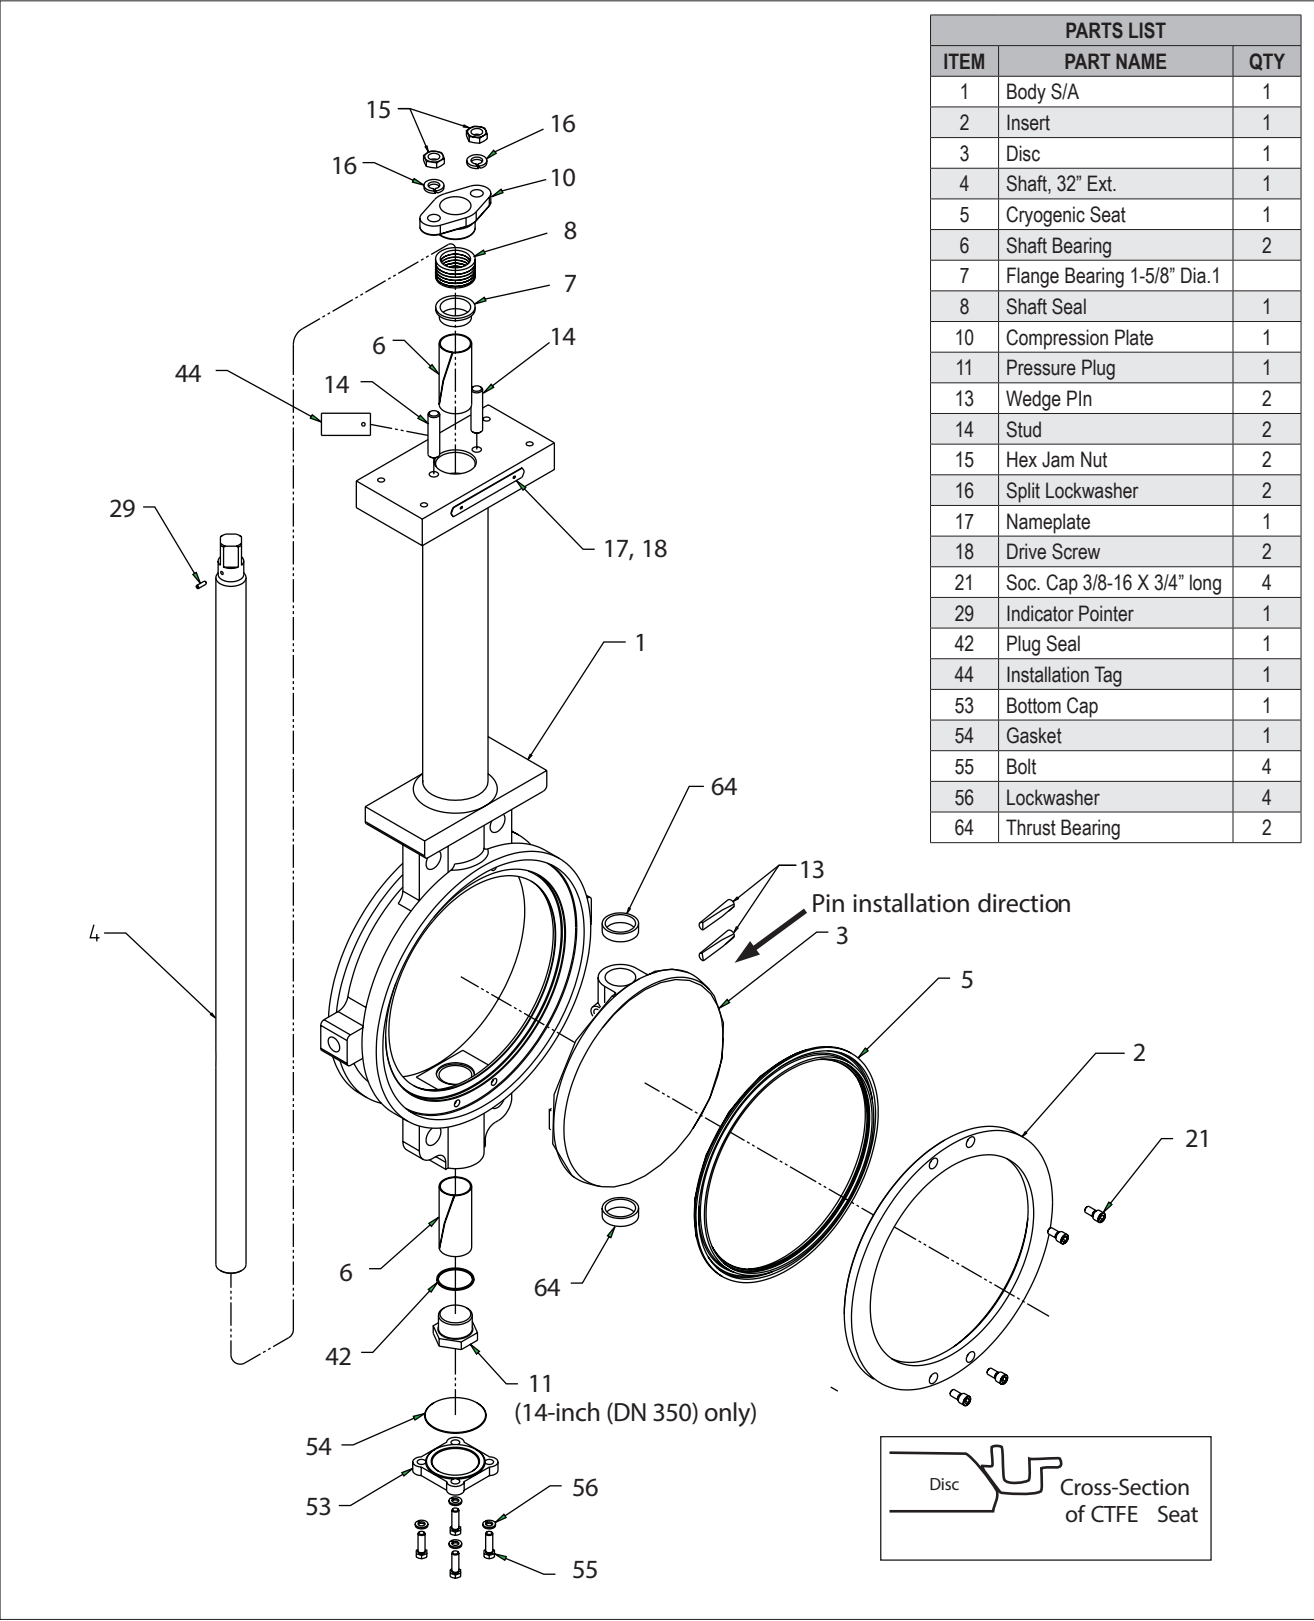

Figure 8.
5. Install the bearings (6) into the body bores.
7. Position the disc (3) in the body between the thrust bearings (64) and slide the shaft (4) through the body and disc. Use caution to prevent damage to the bearings. An arrow and the word "bonnet" on the disc indicates correct orientation.
8. Insert the wedge pins (13) and drive them into place. The pins must be driven so that all pins are the same depth within 1/16" (1.6mm). Be certain that the pins are installed from the direction shown in **Figure 8 or 9**. Weld both ends of the pins, small end first. After the disc cools, clean the welds with a wire brush. **CAUTION:** Use care to keep contamination out of the valve.
10. If the studs (14) have been removed from the valve, reinstall them in the holes shown in **Figure 8 or 9**.
11. Place the compression plate (10) over the shaft (4) and studs (14). Orient the plate so that the indicator pointer will be over the indicator plate. Install the lockwashers (16) and nuts (15), but do not tighten. Install the indicator pointer in the shaft.
12. On valves with cover plates, install bottom bearing spacer (43) in 14"– 16" (DN 350-400) 830W and 830L valves only. Assemble the cover plate (53) and gasket (54) to the cap screws (55) and lockwashers (56). Torque the cap screws per **Table 3**. Place the plug seal in the recess at the bottom of the valve and install the plug. Torque the plug until it is flush with the body. A small (1/16") tack weld on the corner of the plug is recommended. **CAUTION:** A larger tack weld is apt to have enough heat to damage the seal.
14. Install the seat (5), insert (2), and insert screws (21) as shown in **Figure 8 or 9**. Torque values are given in **Table 1**.
15. With the valve still closed, tighten the nuts (15) on the compression plate evenly until the packing is adequately compressed to prevent leakage. This should require tightening the nuts approximately 1-1/2 to 2 full turns past the "finger-tight" position.
- c. From **Figures 8 or 9**, the ballooned part number, part name and quantity required.